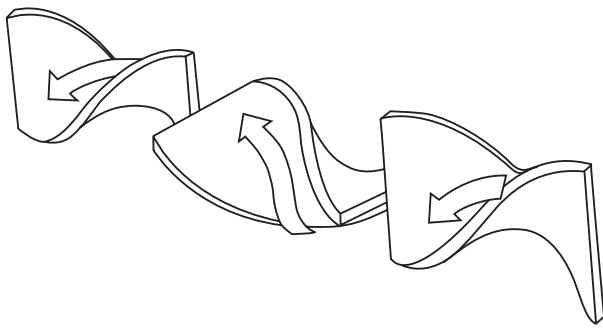

Figure 6. Static Mixer Elements (Arrows indicate fluid flow).
C. One final note on the mixing equipment in operations where liquids are processed or gases injected into liquid streams. For these situations, an in-line static mixer can be used. These have no moving parts, but consist of a cylindrical length (usually right inside a process pipe) that has a series of short elements that split fluid and make a 90° twist. The fluid is then recombined with half of the other stream, split again, and another twist occurs. (See figure 6). As flow progresses, split streams recombine and twist again repeatedly. Between eight and 20 such splits will provide adequate mixing. This is a low-maintenance way to achieve mixing, but the corresponding pressure drops in the pipe will require additional upstream pumping to overcome the friction from the twisting elements.